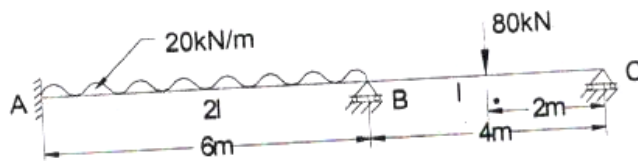

Figure -3
b) Using Strain Energy theorem Calculate slope  $\theta_A$  and  $\theta_B$  and deflection at the center of a simply supported beam (AB) of span L carrying a clockwise couple M kN-m at the center of the beam 7M C02 L3
- 6 Analyze the continuous beam shown in Figure-3 by Three Moment Equation. 14M C04 L4